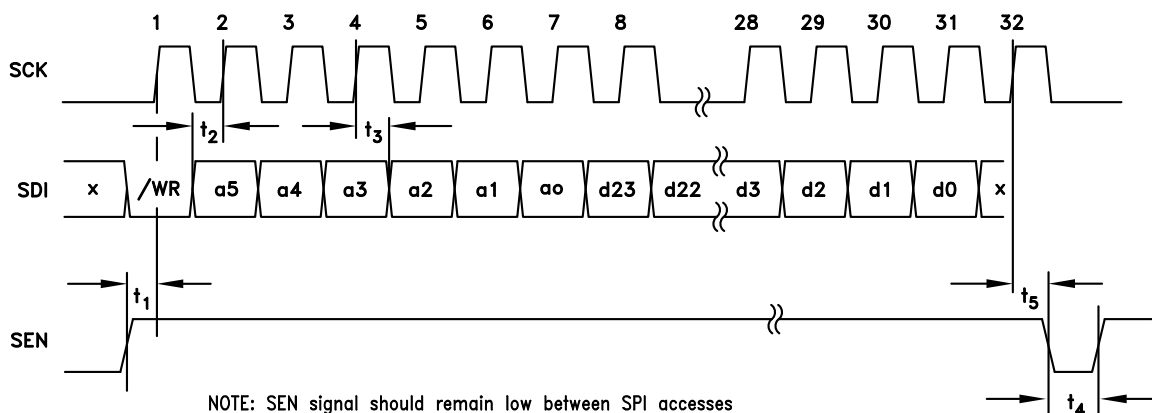
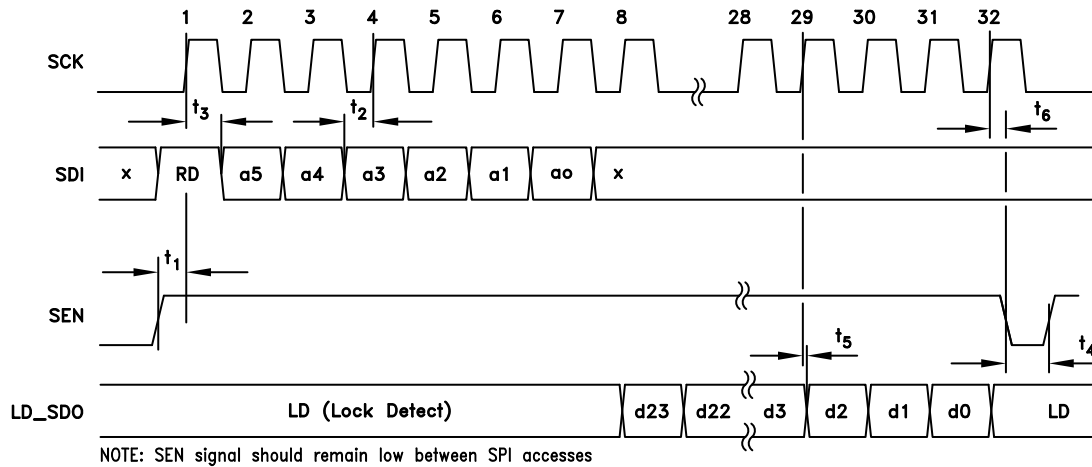

Figure 45. HMC Mode - Serial Port Timing Diagram - WRITE
Figure 46. HMC Mode - Serial Port Timing Diagram - READ
The HMC Mode protocol, shown in figures Figure 45 and Figure 46, is designed for a 4 wire interface with a fixed protocol featuring
A typical HMC Mode WRITE cycle is shown in Figure 45.
A typical HMC Mode READ cycle is shown in Figure 46.
- The Master (host) asserts both SEN (Serial Port Enable) and SDI to indicate a READ cycle, followed by a rising edge SCLK. Note: The Lock Detect (LD) function is usually multiplexed onto the LD\_SDO pin. It is suggested that LD only be considered valid when SEN is low. In fact LD will not toggle until the first active data bit toggles on LD\_SDO, and will be restored immediately after the trailing edge of the LSB of serial data out as shown in Figure 46.
- The slave (HMC833LP6GE) reads SDI on the 1st rising edge of SCLK after SEN. SDI high initiates the READ cycle (RD)